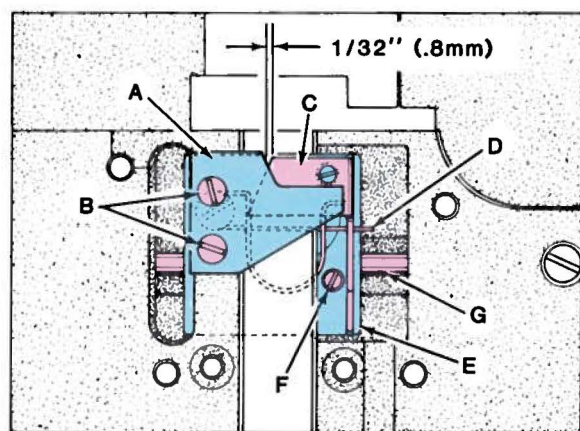
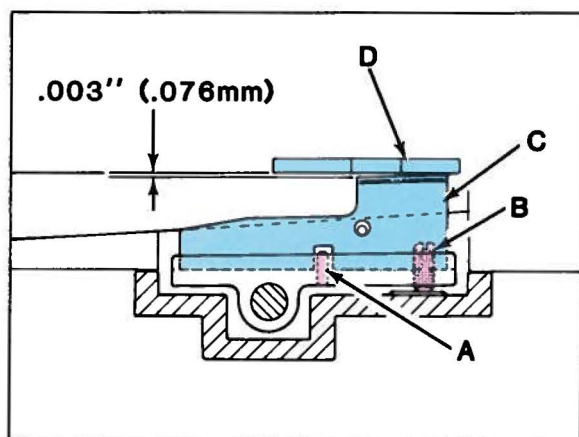

Fig. 23
Fig. 24
Proper left to right adjustment of lower knife is correct when at extreme left of travel there is 1/32 inch (.8mm) clearance between front of its cutting edge and upper knife cutting edge as shown in Fig. 23. To adjust, move slide block to extreme left and loosen lock screw (F, Fig. 23). Then while holding drive shaft (G) from moving, reposition slide block to proper dimension for lower knife and retighten lock screw (F).
Shear angle can be adjusted by turning screw (B, Fig. 24) clockwise to increase angle or counterclockwise to decrease angle. Proper shear angle is .003 inch (.076mm) measured at rear cutting edge of lower knife (C) and cutting edge of upper knife (D) as shown in Fig. 24.
NOTE: All references to Fig. 23 are as viewed from rear of machine; references to Fig. 24 are as viewed from left end of machine.
The upper knife (A, Fig. 23) is replaced by removing two screws (B). In order to replace lower knife - the upper knife, rear cover and thread inlet must be removed. The lower knife (C) is held in position by a roll pin (A, Fig. 24) and tension spring (D, Fig. 23). To remove lower knife, lift up and tilt to the right. When replacing lower knife, be sure to engage end of tension spring through the hole in side of lower knife before inserting in the slide block (E). Also be sure the slot in lower knife is located over roll pin as shown in Fig. 24.